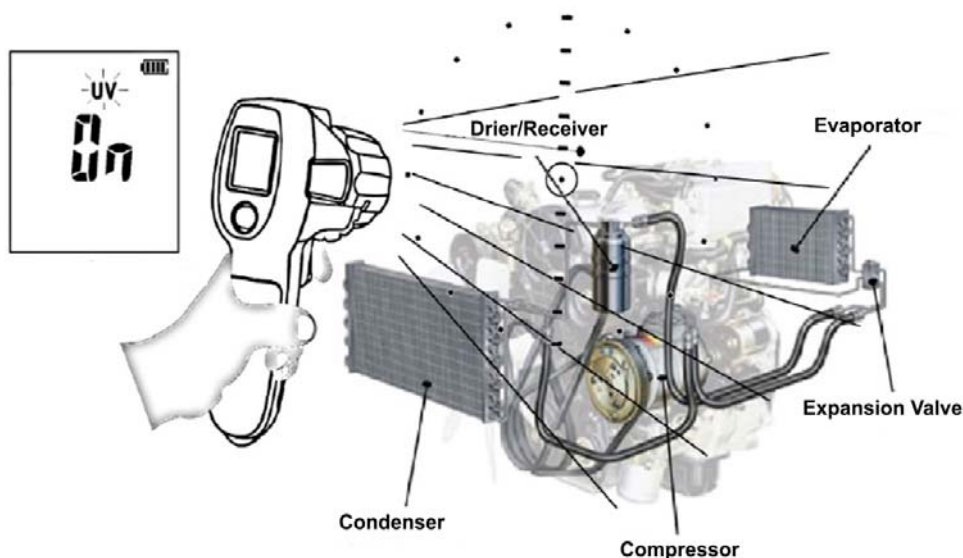

Fig. 20: Measuring dispersion temperature of refrigerating agent
3. Direct the blue light beam (see Fig. 3 – part 2) onto the engine unit (see Fig. 20). The light will reveal the presence of dispersion of refrigerating agent. Carry out measurement as described above.